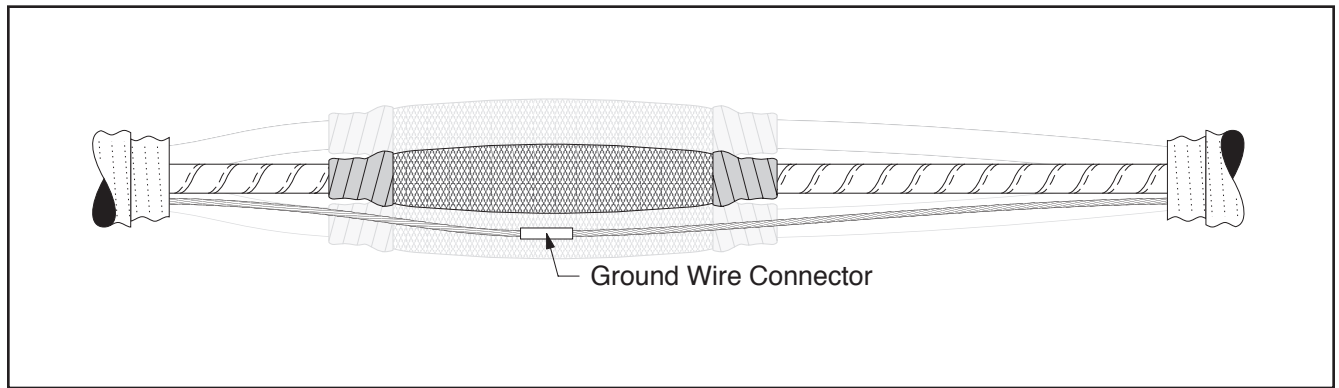

Figure 18
2.9 Connect ground wires using an appropriate connector (*Figure 18*).